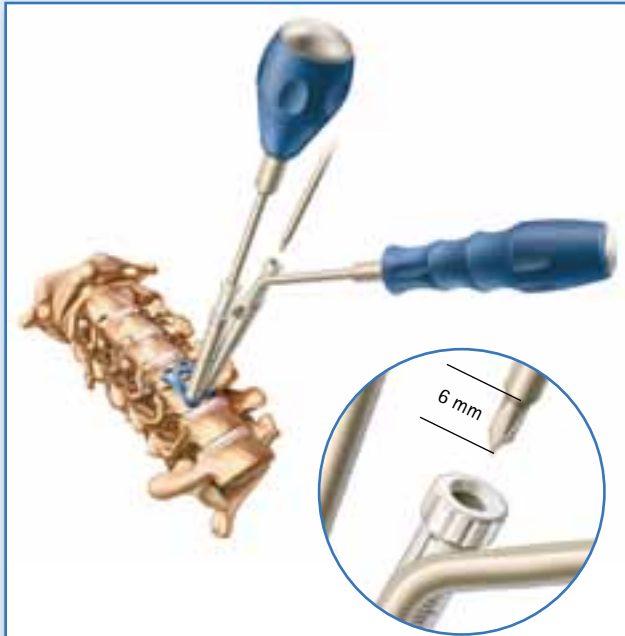

Fig. 13
3. Gently pierce the anterior cortex of the vertebral body by advancing the Cortical Punch into bone until stop is met. The Cortical Punch features a positive stop at a depth of 6 mm. (Fig. 13)
Note: The awl contains a physical stop. At this distance the awl will advance no further into the bone. (Fig. 13)